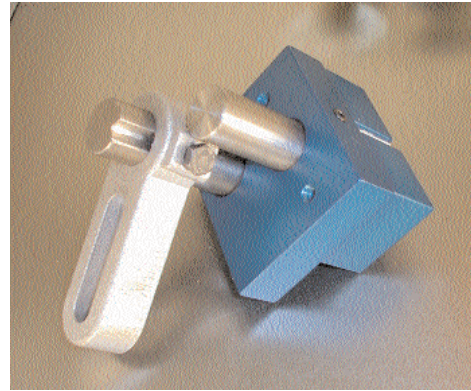

Fig. 15
2. Remove the GL456 bearing assembly and assemble the Surround Guide to the adjustment bracket. See Fig. 15.